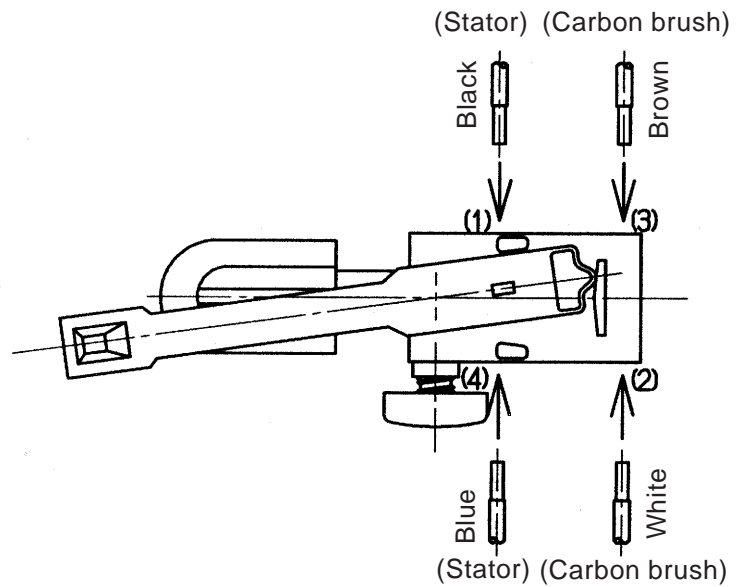

Fig. 17 Wiring of reversing switch
(1) Wiring of reversing switch
Insert the lead wire (black) coming from the stator into the terminal (1) of the reversing switch, and the lead wire (white) into the terminal (2) as shown in Fig. 17. Insert the lead wire (brown) coming from the carbon brush into the terminal (3) and the lead wire (blue) into the terminal (4). After insertion, pull each lead wire slightly to check that the lead wires do not come off. To disconnect the lead wires, insert a small flatblade screwdriver into the slots near the terminals and pull out the lead wires.